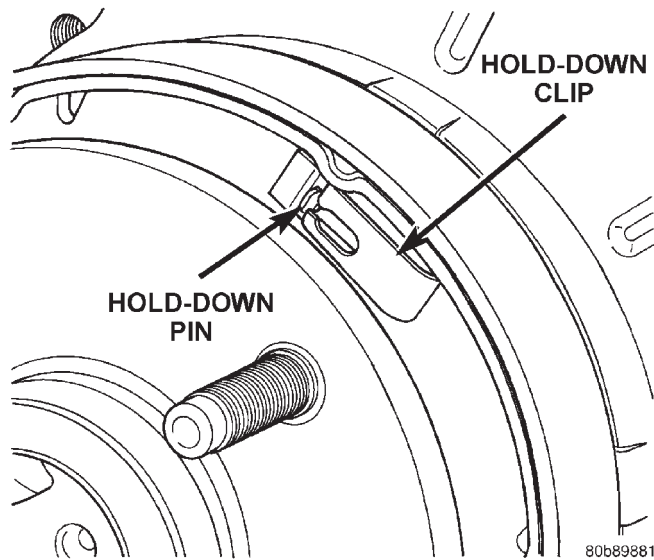

Fig. 62 Hold-Down Clip And Pin
- (10) Remove shoe hold-down clips and pins (Fig. 62). Clip is held in place by pin which fits in clip notch. To remove clip, first push clip ends together